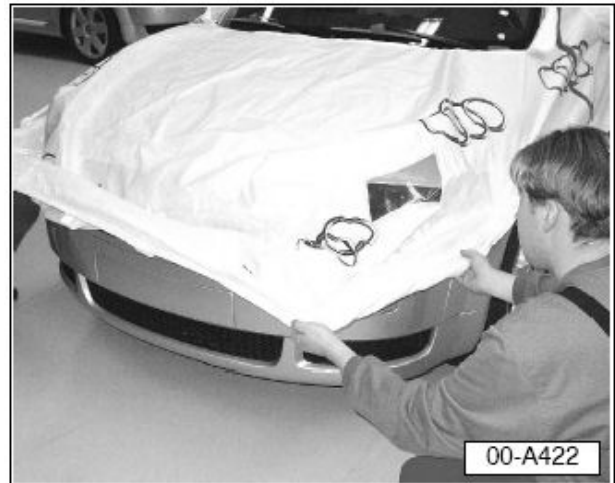

Figure 12. Lift cover from front bumper.
12. With the aid of an assistant, lift cover from front bumper as shown (Figure 12).